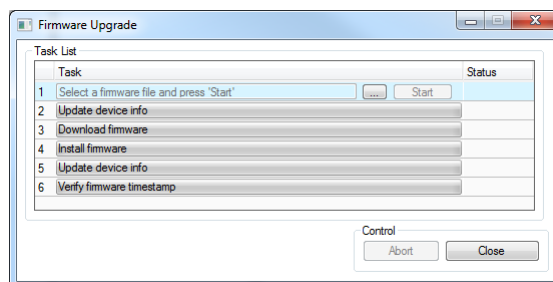

Figure 74: Firmware Update dialog of the Configurator
6. This opens the Firmware Update dialog as shown in Figure 74. Click on the button  and select the firmware image.